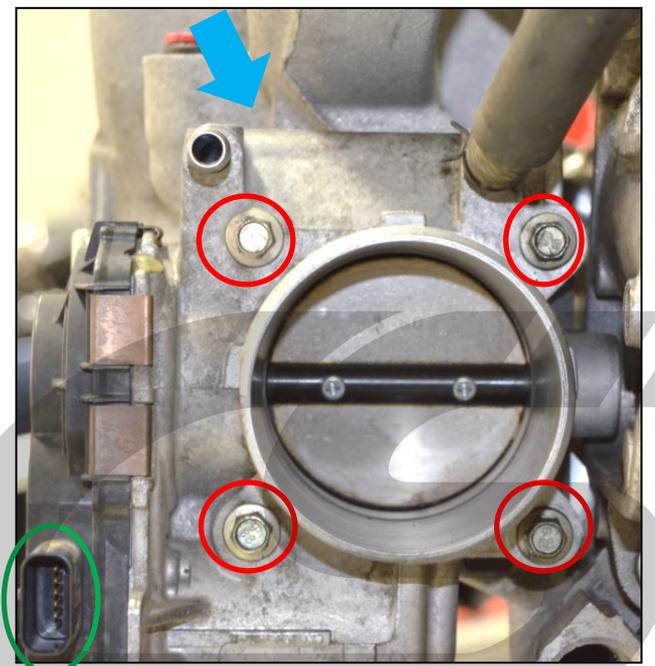
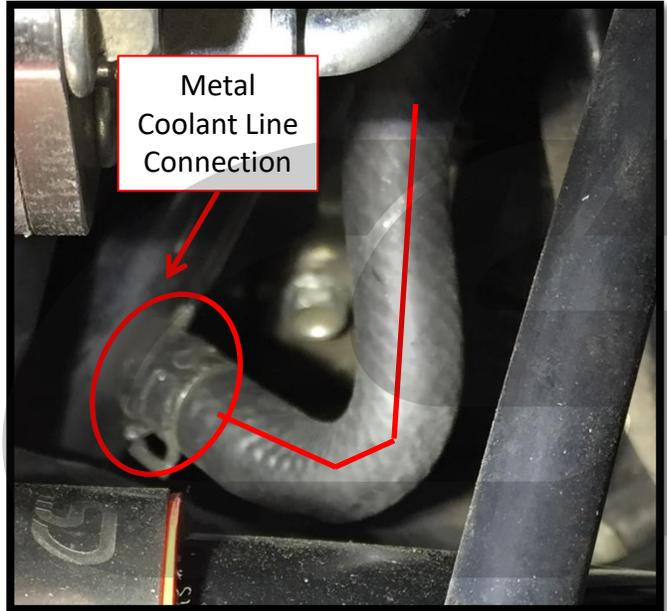
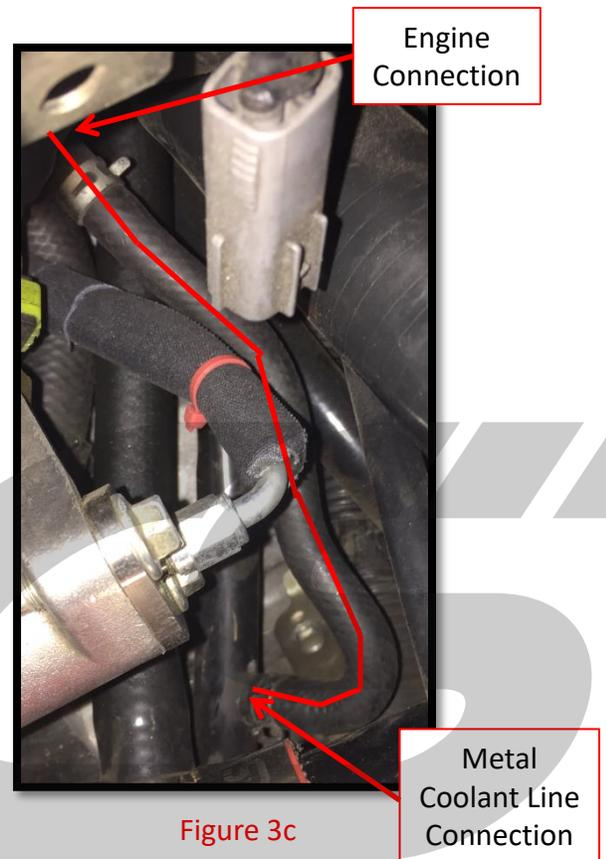

Figure 2b
Figure 3b
Figure 3c
- c) **Unplug the throttle body wiring** from the connector shown with **green circle** in **Figure 2b**.
- d) **Remove the throttle body** using an 8mm socket wrench and extension. The four bolts are shown with **red circles** in **Figure 3b**. Peel the gasket off the intake manifold. Gasket tab shown with **blue arrow** in **Figure 2b**.
2. The other line will connect to a different coolant line located below where the throttle body installs (See Figure 3b).
- b) Using vice grips or c-clamps, pinch the end of the line shown in Figure 3b.
- c) Undo the clamp that keeps the hose attached to the metal coolant line. Red circle in Figure 3b.
- d) Quickly disconnect the rubber hose from the metal coolant line (Figure 3b), and attach the other rubber hose to this port. Figure 3c shows what the line should look like after rerouting.